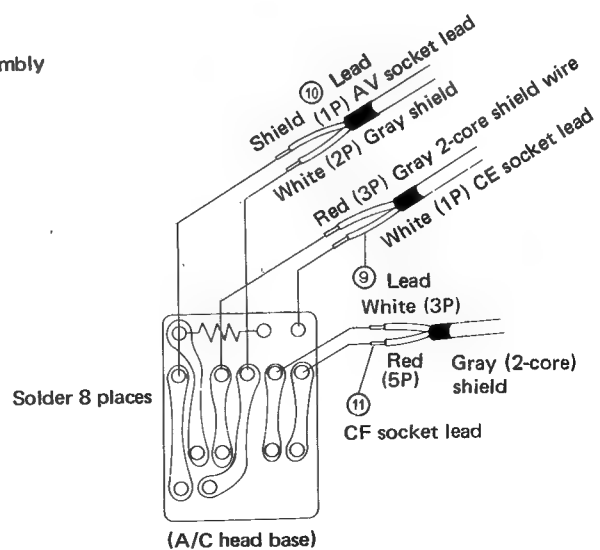

Figure 7-24.
1. After replacement, be sure to adjust tape travel. During replacement, never touch the head surface by hand (where indicated with in Figure 7-24).